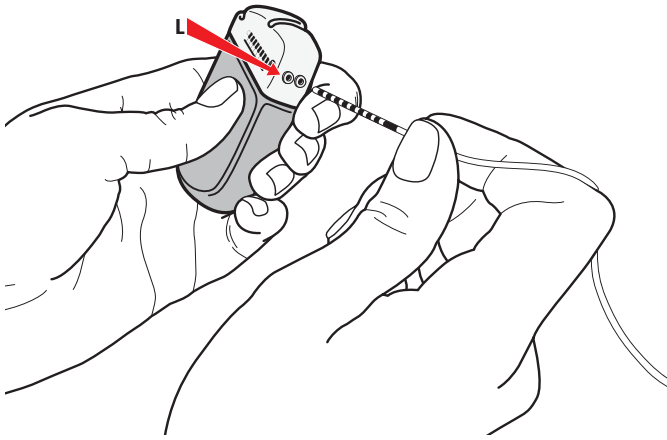

Figure 41. Connection to IPG Port L
1. Connect the left hemisphere Lead Extension to Port L (or C) (Figure 41).